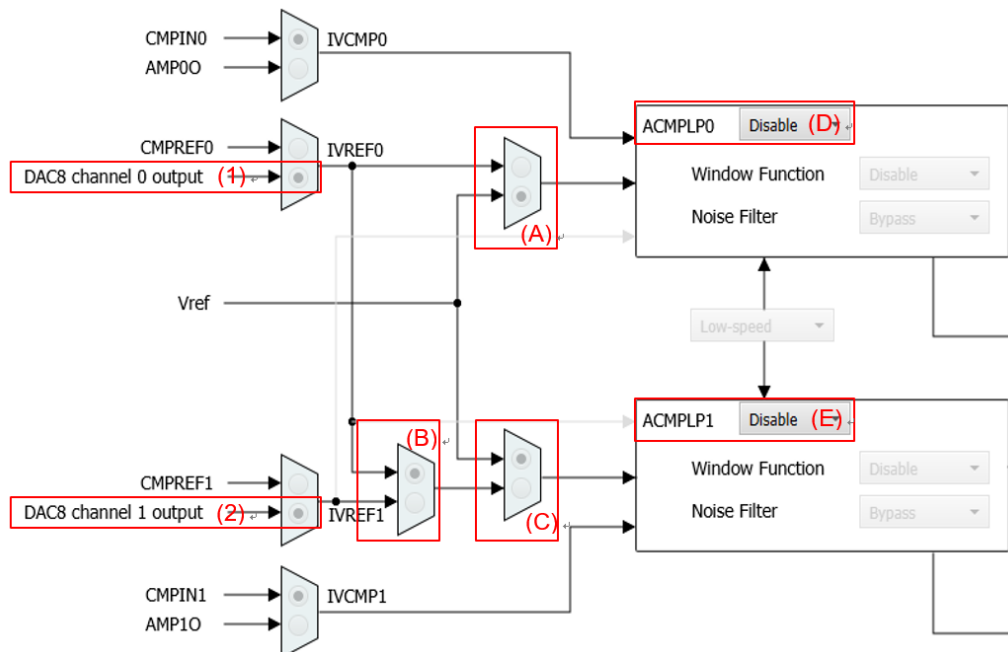

Figure 3-4 ACMLP1 example setting
- “DAC8 channel 0 output” is selected as ACMLP0 input (refer to figure3-4 (1))
- When switcher (A) selects Vref (refer to figure3-4 (A))
- When ACMLP0 is disabled (refer to figure3-4 (D))
- When switcher (B) selects IVREF0, switcher (C) selects Vref (refer to figure3-4 (B) and (C)) and ACMLP1 is enabled (figure3-4 (E) selects “Enable”)
In above ACMPHS setting, figure 3-4 (1) setting is invalid. So please change figure 3-4 (1) from "DAC8 channel 0 output" to "CMPREF0".
- "DAC8 channel 1 output" is selected as ACMPHS1 input (refer to figure3-4 (2))
- When switcher (B) selects IVREF0 (refer to figure3-4 (B))
- When switcher (C) selects Vref (refer to figure3-4 (C))
- When ACMPHS1 is disabled (refer to figure3-4 (E))
In above ACMPHS1 setting, figure 3-4 (2) setting is invalid. So please change figure 3-4 (2) from "DAC8 channel 1 output" to "CMPREF1".